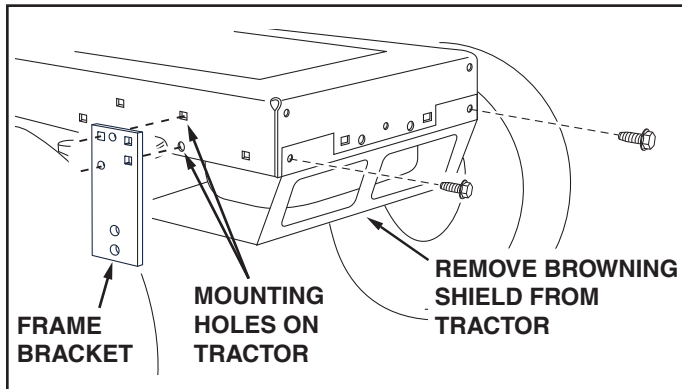

FIGURE 2
STEP 2: (SEE FIGURE 2)
- Use figure 2 to help identify the mounting holes in the tractor frame.